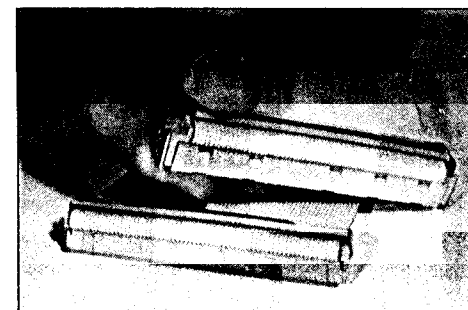

figure 10
3. Hook one end of the strain relief clip onto one end of the connector. Engage the other end of the clip onto opposite end of the connector and snap it into position with finger pressure. (fig. 10)